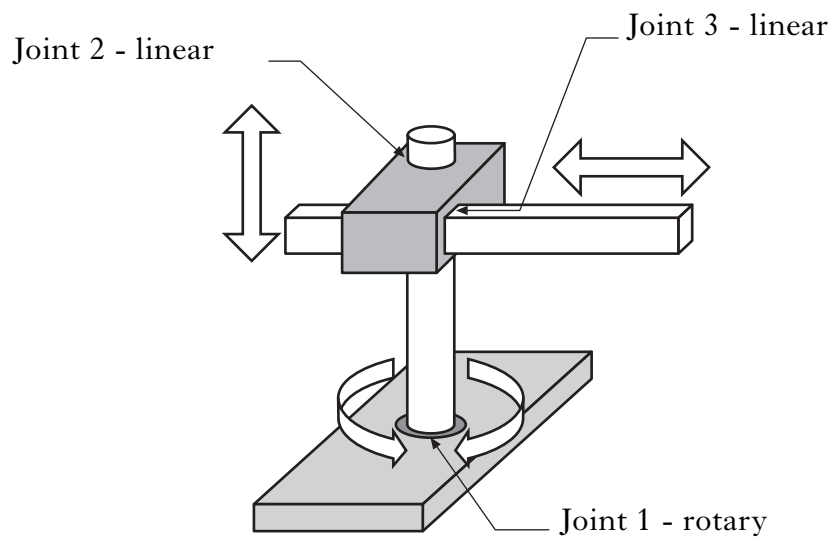

Figure Q3
3. (a) Figure Q3 shows a labelled diagram of a cylindrical robot.